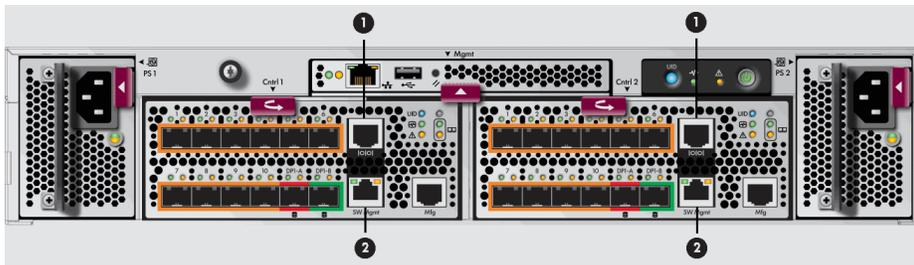

Figure 16 HSV300-S rear view
If needed, you can connect directly to the switch using the console port (2, Figure 16) and the provided console cable (manufacturing part number 259992-001). You may need a USB adapter for this cable if your laptop does not have a serial port.
2. Connect the Ethernet port (2, Figure 16) of the embedded switch to the laptop.
5. Remove the Ethernet cable from the first switch and connect the cable to the Ethernet port (2, Figure 16) of the other embedded switch. Browse to **http://10.77.77.78** for the Controller 2 switch and repeat 4.